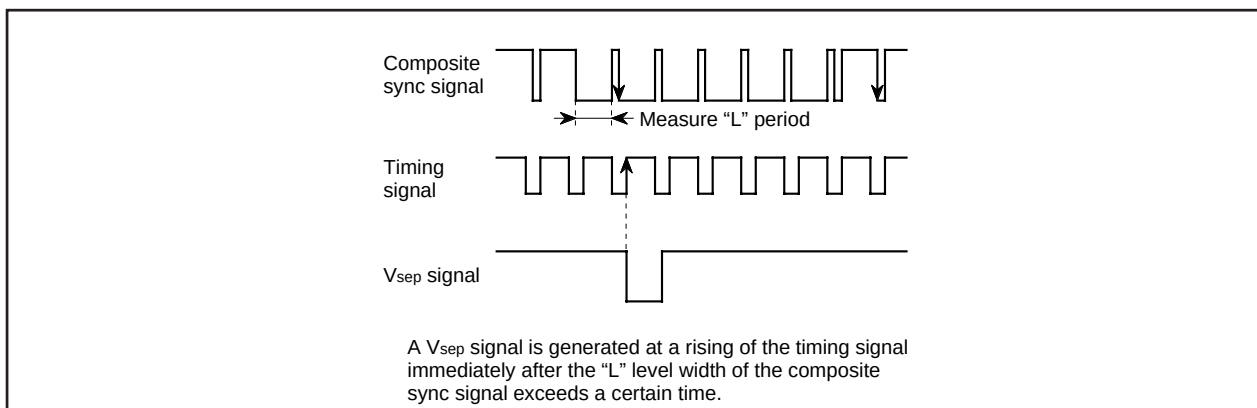

**Figure 2.14.6 Vsep generating timing (method 2)**
- Method 2 The “L” level width of the composite sync signal is measured. If this width exceeds a certain time, it is detected whether a falling of the composite sync signal exists or not in the “L” level period of the timing signal immediately after this “L” level. If a falling exists, a Vsep signal is generated in synchronization with the rising of the timing signal (refer to Figure 2.14.6).
Figure 2.14.6 shows a Vsep generating timing. The timing signal shown in the figure is generated from the reference clock which the timing generating circuit outputs.